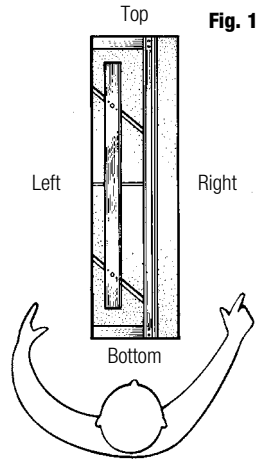
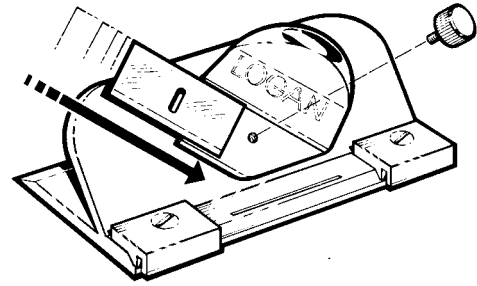

Fig. 2
Fig. 3
3. Place blade onto blade holder, sharp edge down and slide blade until corner of blade tip enters slot and hole in blade lines up with hole in blade holder **(Fig. 2)(Fig. 3)**.